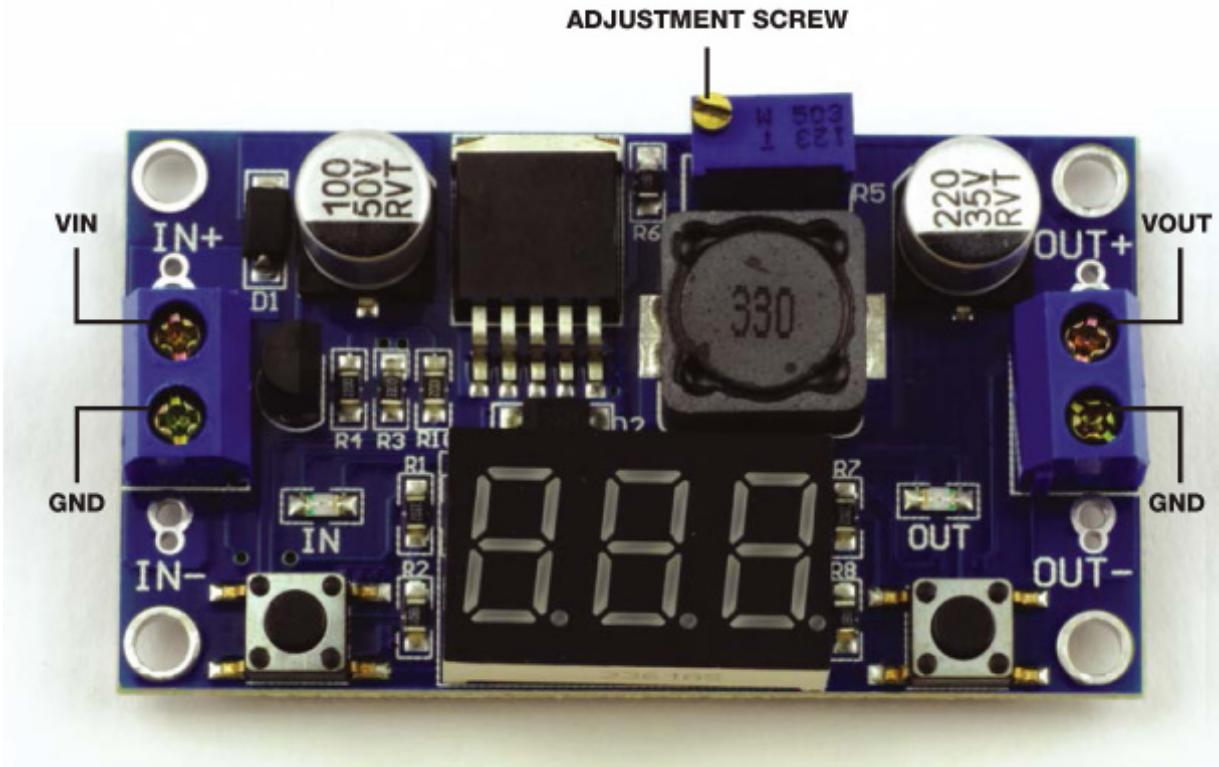
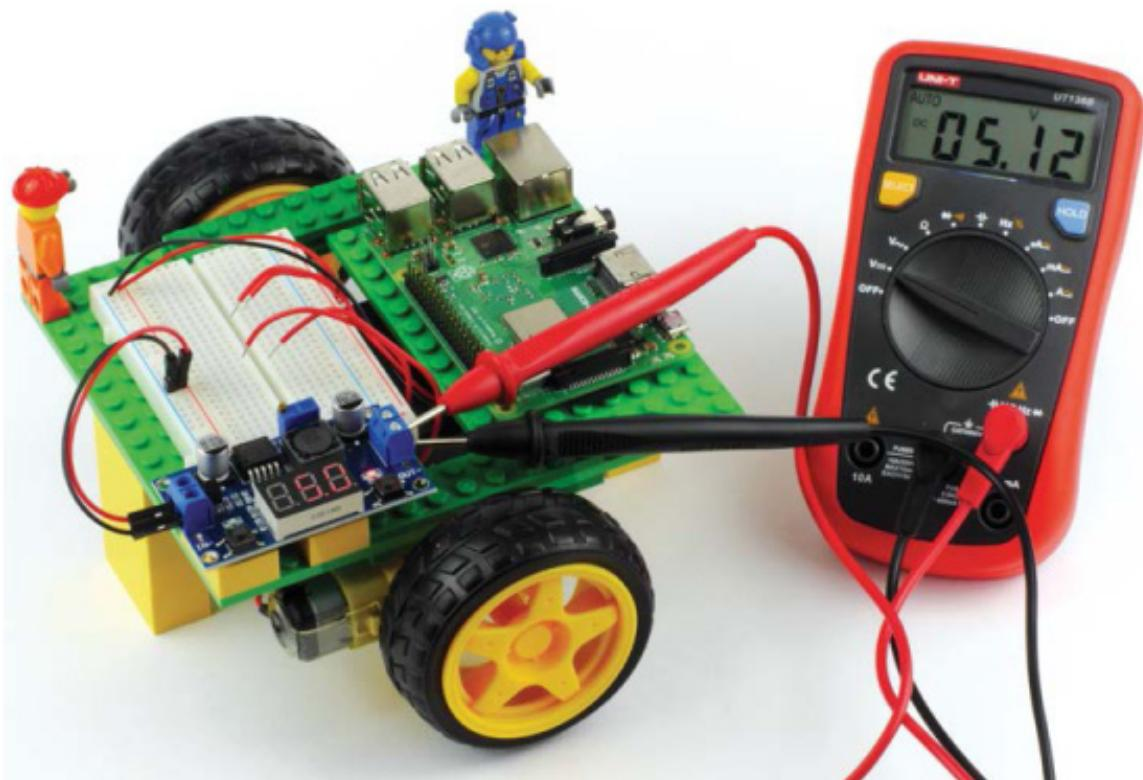

FIGURE 3-19 A close-up of the buck converter
FIGURE 3-20 The multimeter reading 5 V from the output of the buck converter
Start by setting up your buck converter using the following instructions—you won’t connect it to the Raspberry Pi just yet. Flip to the circuit diagram in Figure 3-21 to see a final diagram of the buck converter setup. Check out Figure 3-19 for a close-up image of the buck converter too.
3. Next, turn on your multimeter and set it to read voltage—on most multimeters you do this by turning the dial in the middle to *V*. Then insert the multimeter’s red positive lead into the VOUT (voltage out) terminal of your buck converter, and insert the multimeter’s black negative lead into the GND terminal on the same side (see Figure 3-19). You should see a reading of the output voltage of your buck converter appear on the multimeter. Don’t worry about the value of the reading just yet!
- With the multimeter connected so you can see how the voltage changes, use a screwdriver to twist the *adjustment screw* on the top of your buck converter (check back to Figure 3-19). Insert your screwdriver, and as you twist either left or right your voltage reading should change. Work out the correct direction you need to twist the adjustment screw, and then keep twisting the screw until your multimeter reads 5 V (± 0.1 V), as shown in Figure 3-20. This requires a little trial and error!